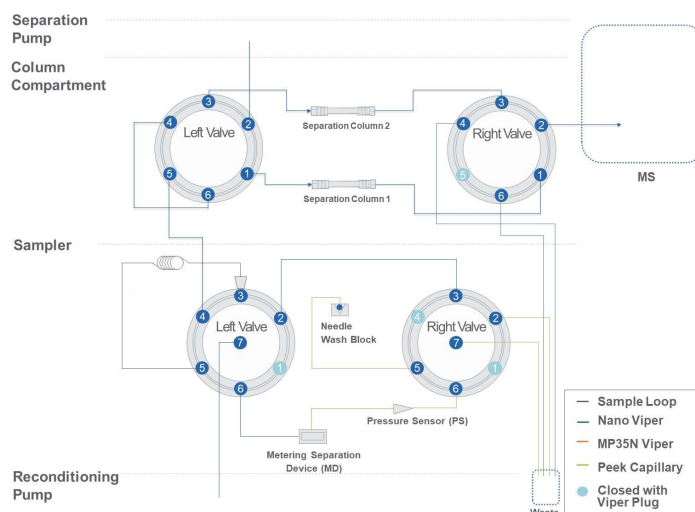
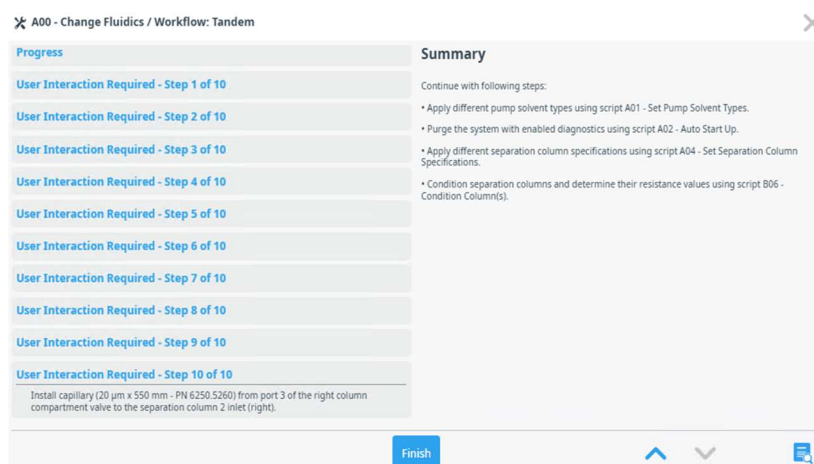

Figure 77: Fluidic schematics for the single spray microflow fluidic configuration with the right switching valve connected to the detector
Figure 84: Summary dialog box at the end of Script A00 listing the next steps to follow
- v. The script guides the user through the workflow configuration changes. Schematics showing the respective fluidic configuration options are given in Figure 77 and Figure 84 below.
possible connection to the (MS) detector, resulting in minimum possible post column dispersion. Similarly, if the MS is located on the right-hand side of the column oven, the option (switching valve to detector => right) should be selected (see Figure 77).
The summary page of the A00 script lists further steps which should be performed to ensure successful tandem workflow operation (see Figure 84).
TIP The instructions should be documented prior to clicking “finish” as they subsequently disappear. Alternatively, please refer to the right hand side summary of Figure 84 when proceeding with the next steps